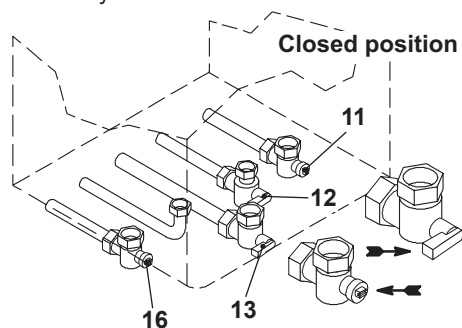

Fig. 9.3
- Turn off the d.c.w. inlet isolating valve (12 in Fig. 9.3) and turn on the hot water taps and any drain cocks.
- Close the c.h. isolating valves (11 and 16 in Fig. 9.3).